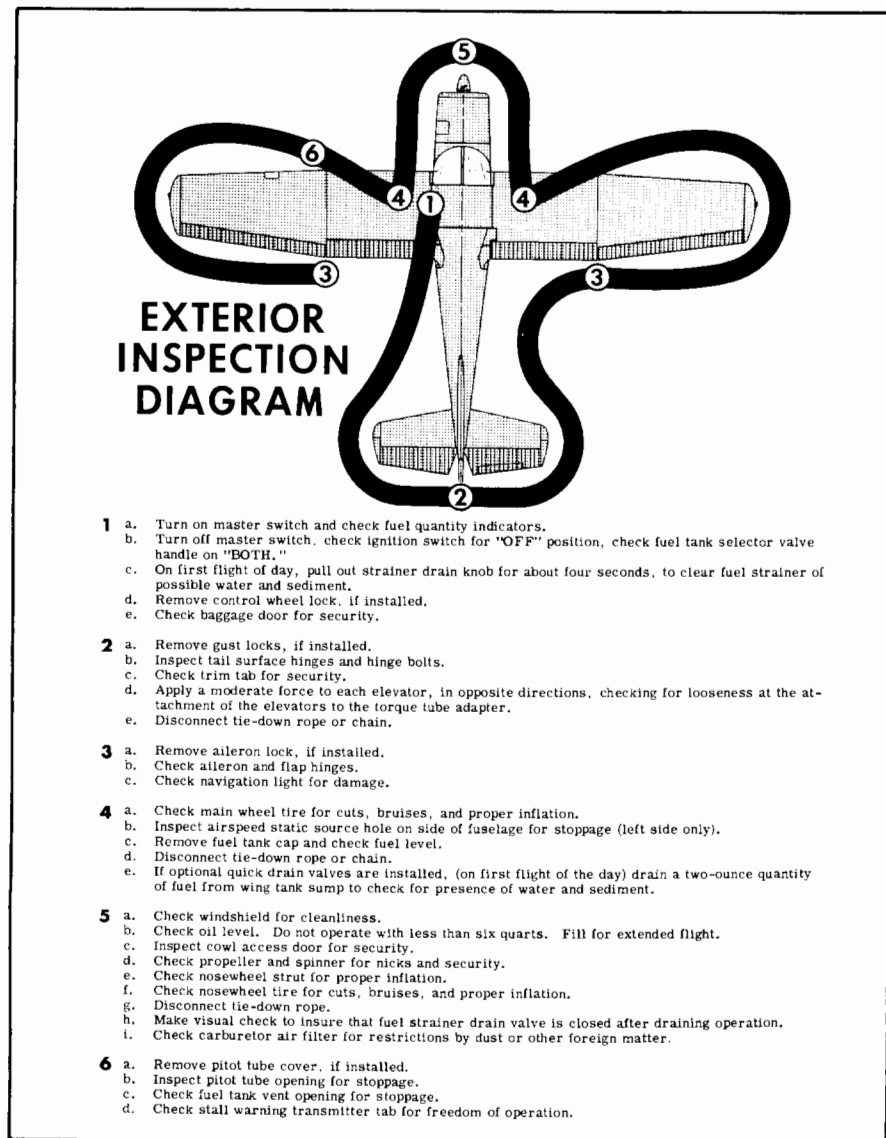

Figure 2-1
- (1) Make an exterior inspection in accordance with Figure 2-1.